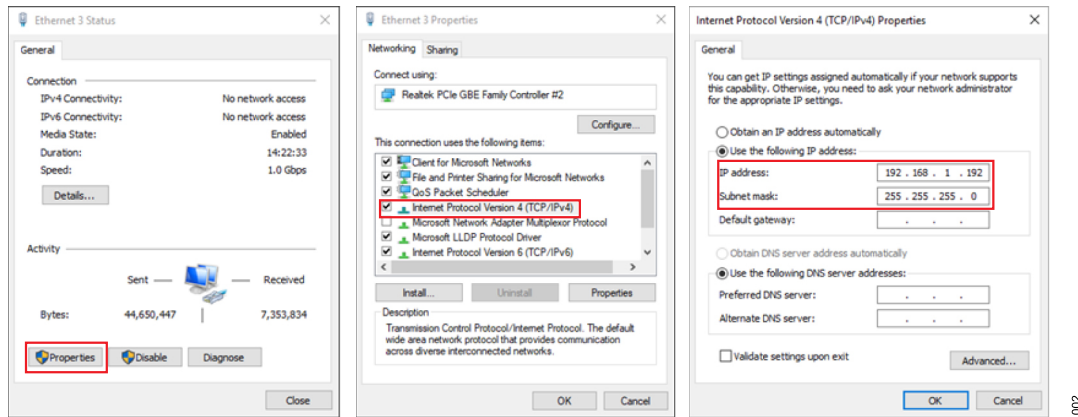

Figure 2. IP Settings for Ethernet Port Dedicated to ADS10-V1EBZ Motherboard (Note the Last Number in the IP Address Must Be Chosen by the User.)
- ▶ On the Ethernet connection dedicated to the ADS10-V1EBZ platform, the user must manually configure the IP address (see Figure 2):